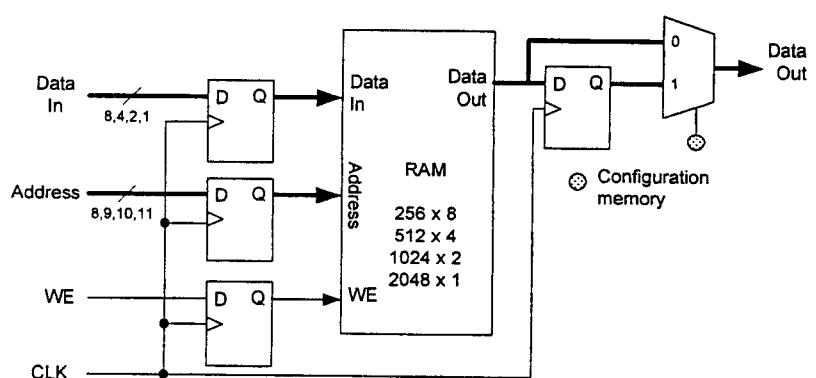

Figure 3.2
- b) Figure 3.2 depicts a Embedded Array Block (EAB) found in the FLEX10K family of FPGA. Each EAB can be configured as 2048 x 1, 1024 x 2, 512 x 4 or 256 x 8 block of RAM. The data output can be registered or unregistered depending on how the EAB is configured as shown in Figure 3.2.